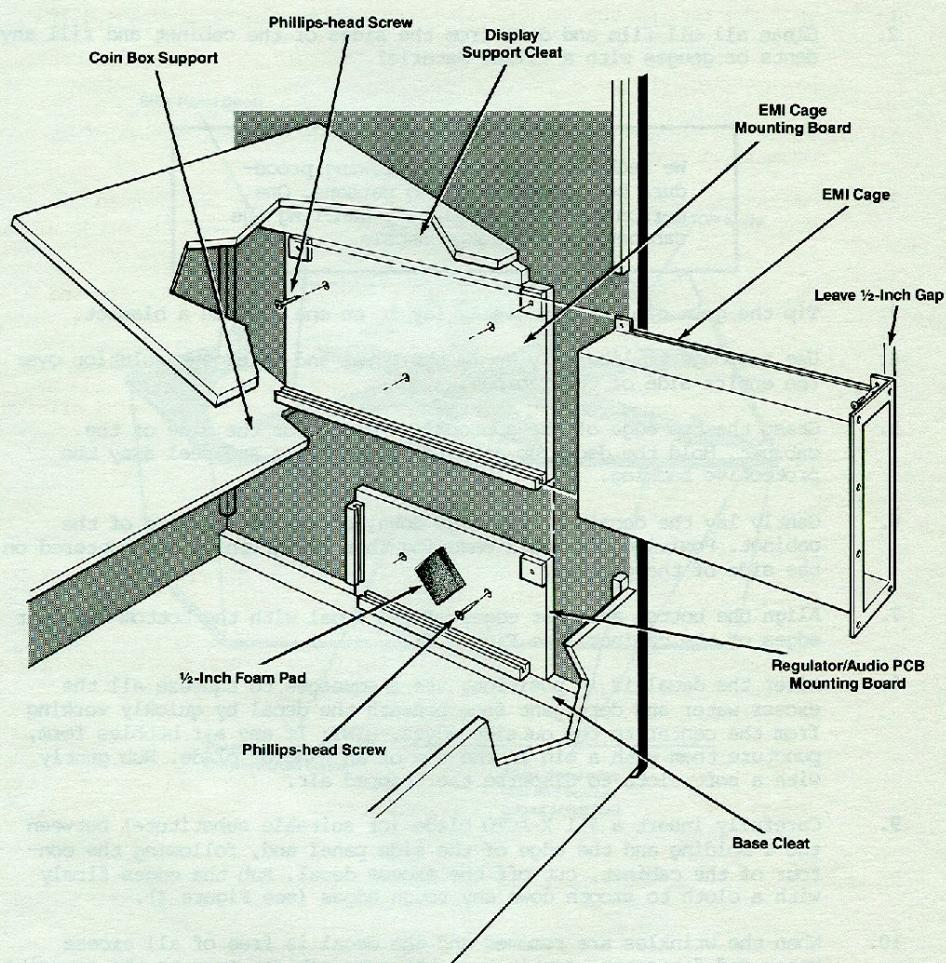

Figure 3 Installing the PCB Mounting Panels and EMI Cage
2. Install the Regulator/Audio PCB mounting panel on top of the cabinet-base cleat and align it with the rear edge of the EMI cage mounting panel. Secure the panel using two 1-1/4 inch Phillips-head screws (see Figure 3).
3. Remove the protective backing from the 1/2-inch foam pad and apply the pad to the Regulator/Audio PCB mounting panel as shown in Figure 3.
1. Install the EMI cage (and PCBs) by sliding its tabs into the lower cleat. Secure the cage with two 3/4-inch Phillips-head screws (see Figure 3). Be sure to leave a 1/2-inch space to attach the ground- ing clip.